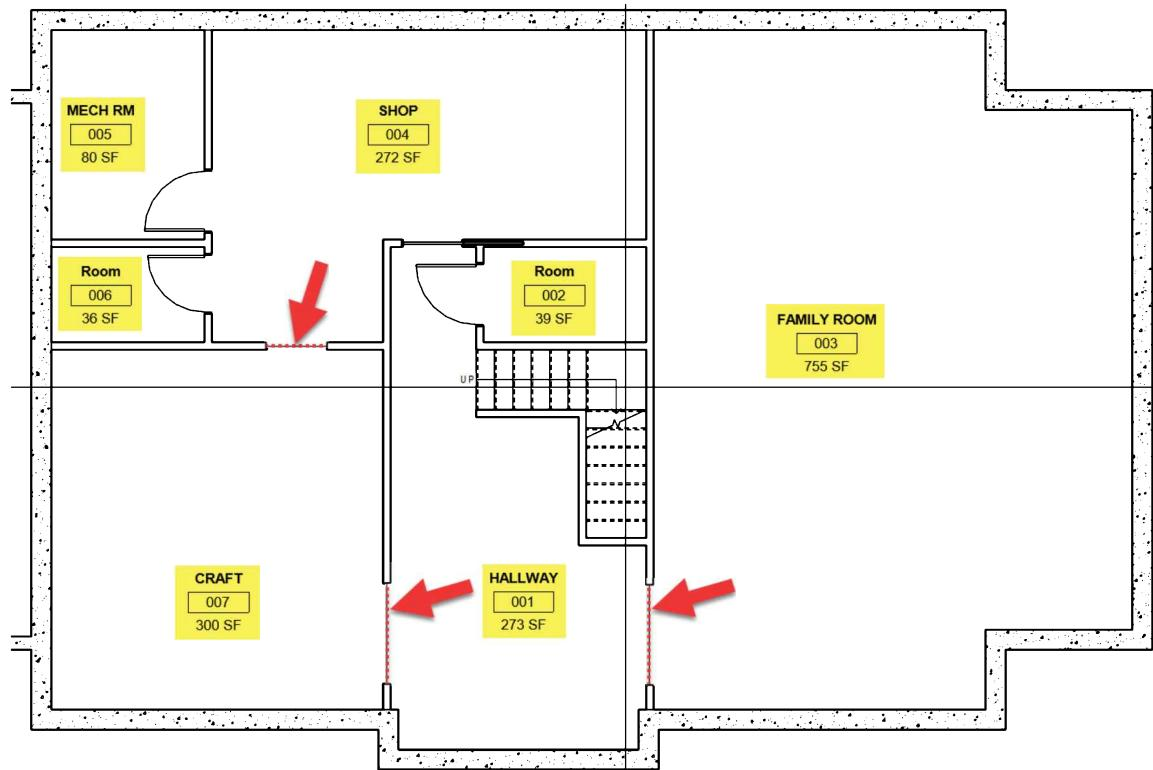

FIGURE 13-1.5 Basement – Room tags
- Add *Rooms/Tags* to the *Basement Floor Plan*. The numbering should start with 1; **do** change the room names (Figure 13-1.5). Add the *Room Separator* lines as pointed out.